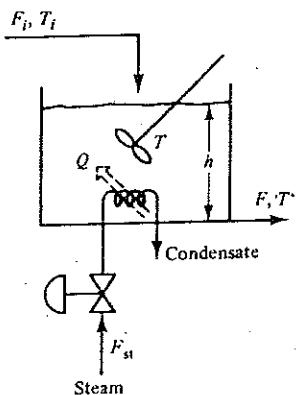

FIGURE 4.
4. Derive the state equations and find the degree of freedom for the stirred tank heater shown in figure 4. [6M]